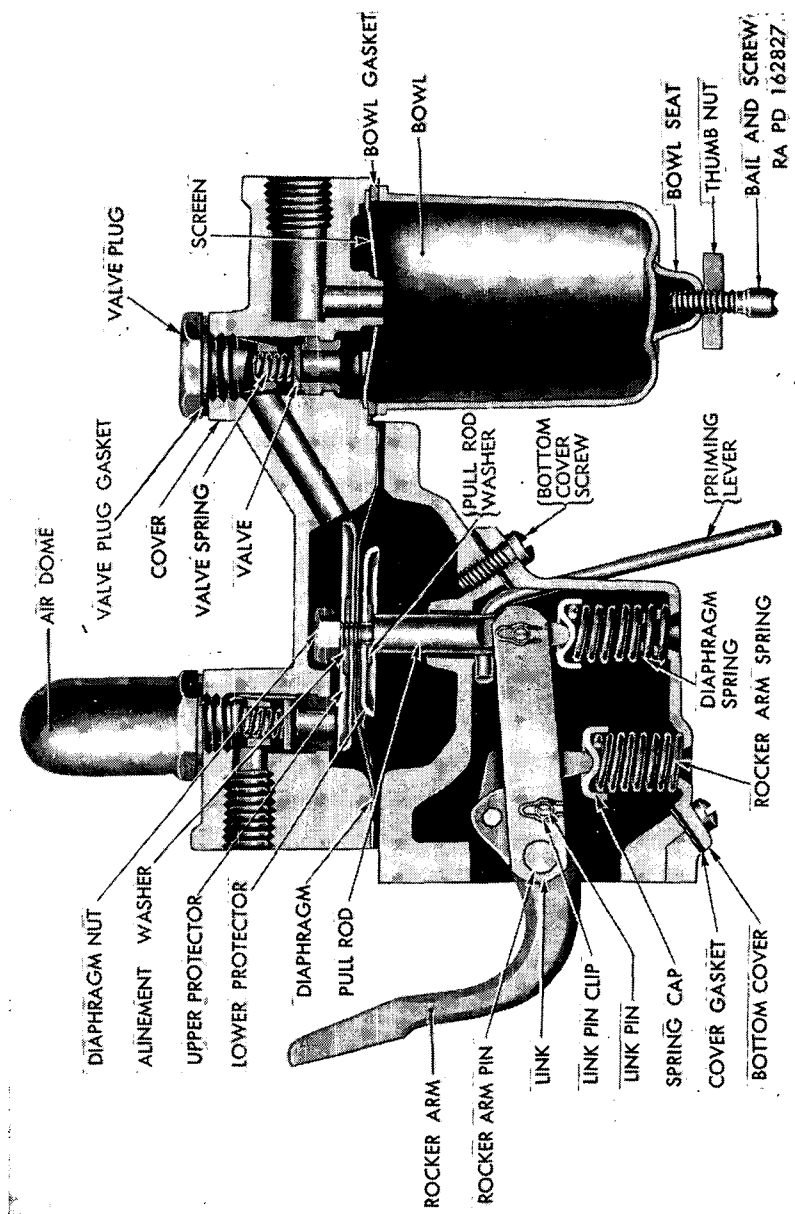

Figure 1. Fuel pump, series B—sectional view.
(figs. 1 and 2)
(2) *Link action.* The link is hinged to the rocker arm so that the link and the connected diaphragm can be moved down, but not up, by the rocker arm (fig. 1). The link and the diaphragm are moved upward only by the diaphragm spring. The pump, therefore, delivers fuel to the carburetor only when the fuel pressure in the outlet line is less than the pressure maintained by the diaphragm as a result of the force of the diaphragm